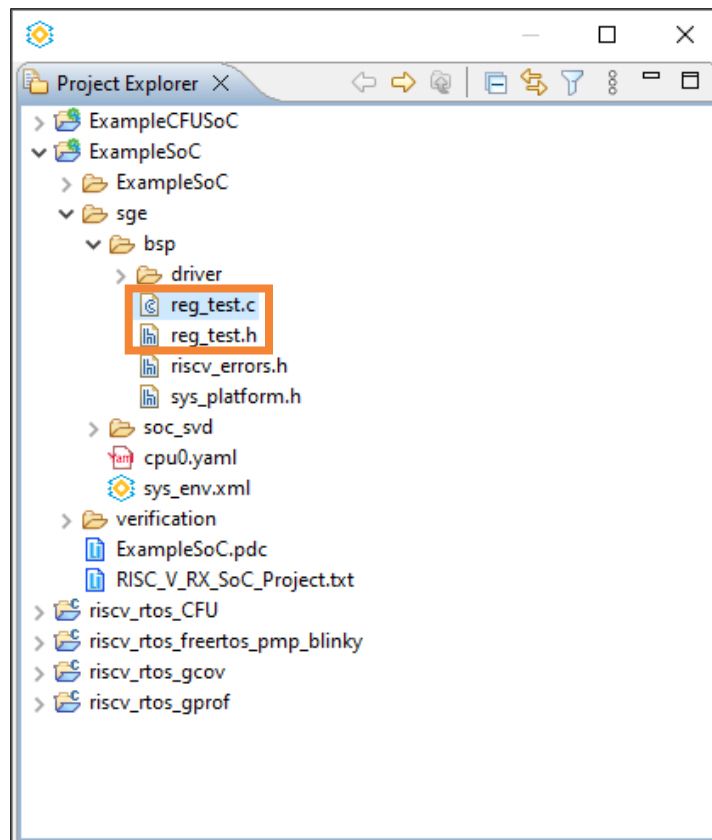

Figure F.1. Project Explorer
2. Build this SoC project by Lattice Propel SDK or Builder. Then, you can find the test files shown in Figure F.1.